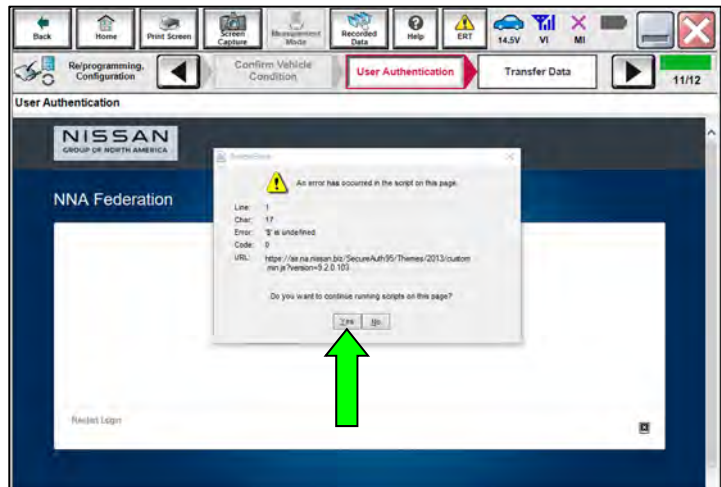

Figure 1
3. Turn the EV system ON (Not Ready mode), by pressing the power switch two (2) times without depressing the brake pedal.
7. If the Script Error shown in Figure 1 is present, select **Yes**.